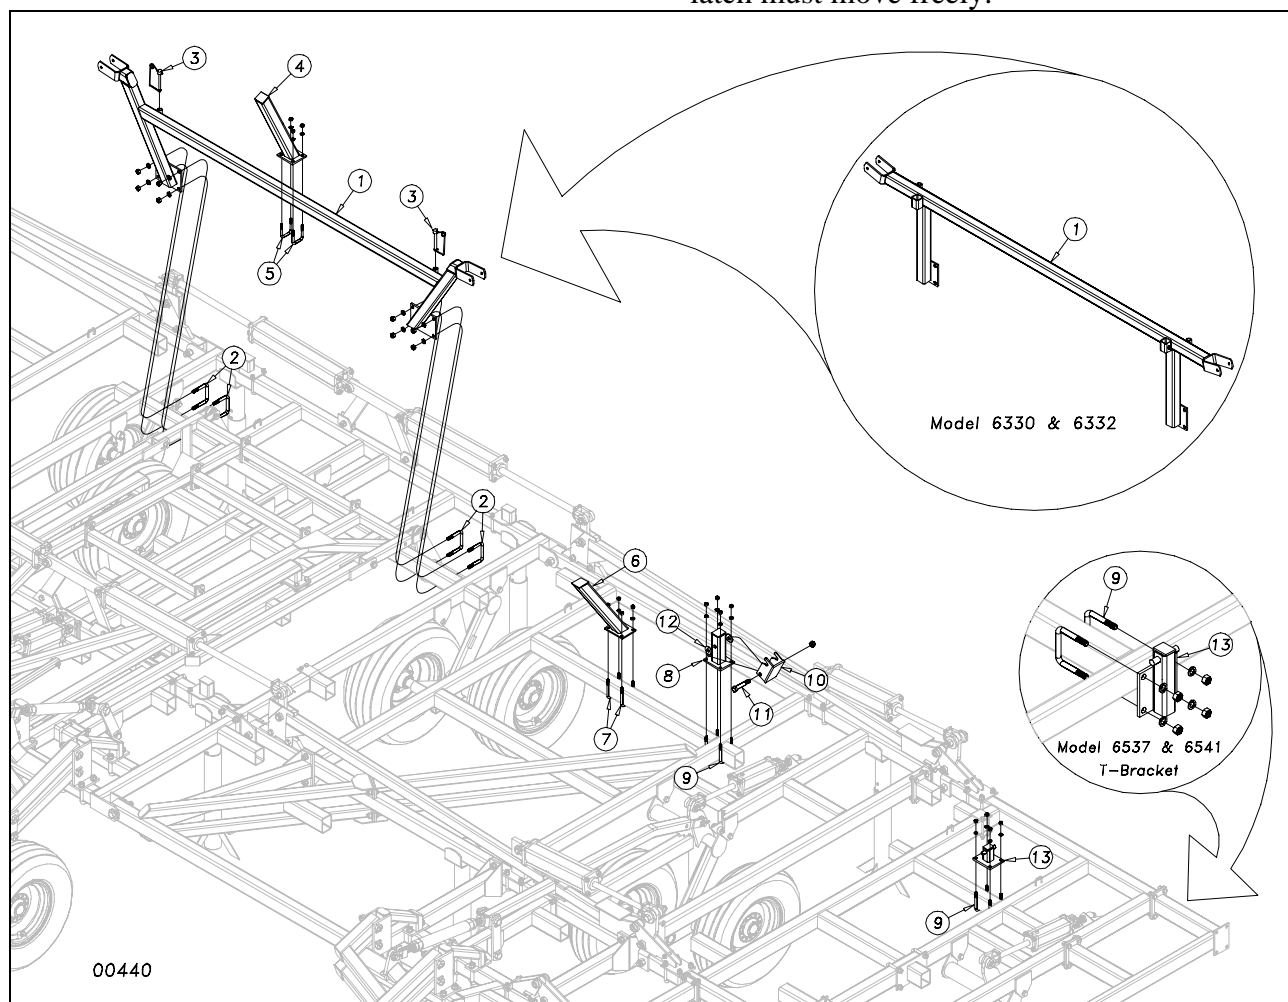

Figure 13
U-bolt the center wing stop (1) to the second bar from the rear on the center frame as shown in Figure 13. Use 5/8 x 4 x 4 1/4 u-bolts (2) with lock washers and hex nuts. Center the wing stop from side to side. Insert the 1/2 x 4 1/2 transport lock quick pins (3) in the holders on the wing stop.